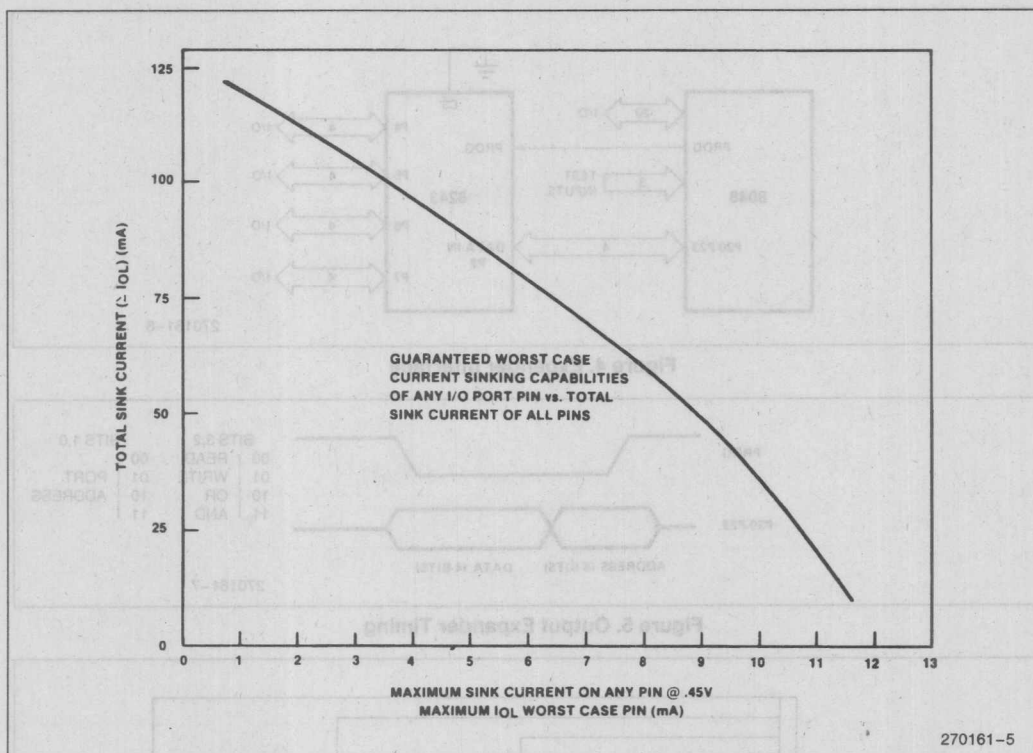

Figure 3. 8243 Current Sink Capability
*Refer to Figure 3 for additional sink current capability.